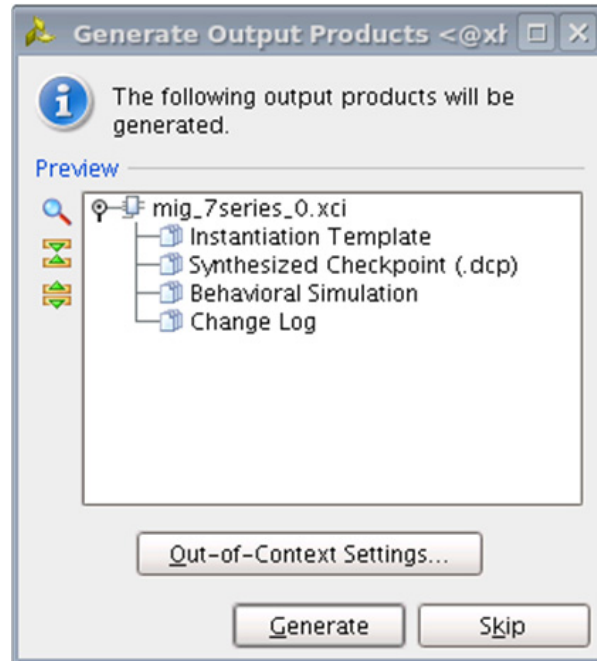

Figure 2-28: **Generate Output Products Window**
1. After clicking **Generate**, the **Generate Output Products** window appear. This window has the **Out-of-Context Settings** as shown in Figure 2-28.